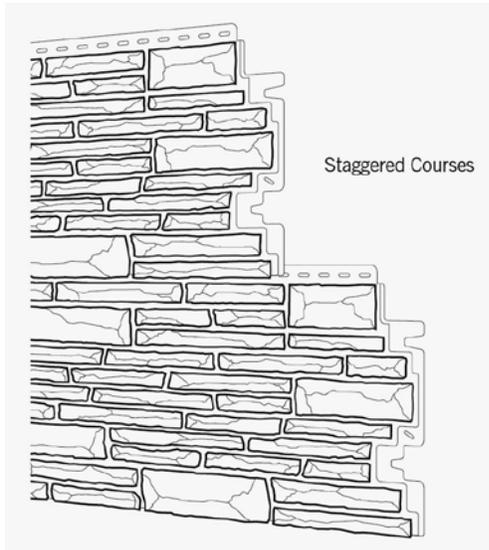

Figure 7
**STEP SIX** Install the remaining courses, repeating steps 1, 3, 4, and 5. The fastener must be flush with the panel, so as not to interfere with the succeeding row of panels. In order to achieve a realistic Stacked Stone look, stagger each subsequent course in increments of 8" (figure 7). Never force panels down on top of each other or into each other, left to right, or else risk breaking the stop posts on the back of the panel. Set them into place gently, ensuring that all fingers and/or side locks are engaged,